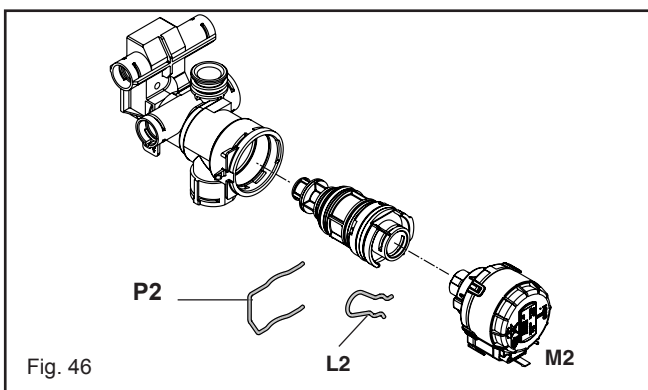

Fig. 46
6.20.5 DIVERTOR VALVE ASSEMBLY (fig. 46)
Have access to the printed circuit board, locate and open the closing plug on the dash board (Q2), locate and press the CO button (see fig. 46 pos. SW1). Press the button the number of times according the function requirement as per 7.3.1.